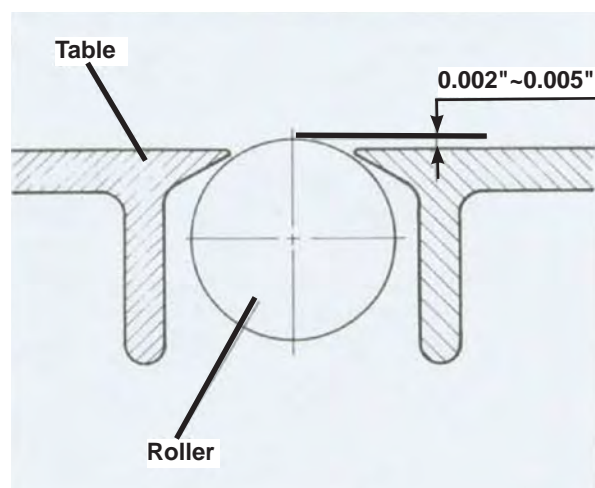

Fig 14
**The raising range between 0.003"-0.006" when raising the roller higher above table as shown in Fig. 14.**